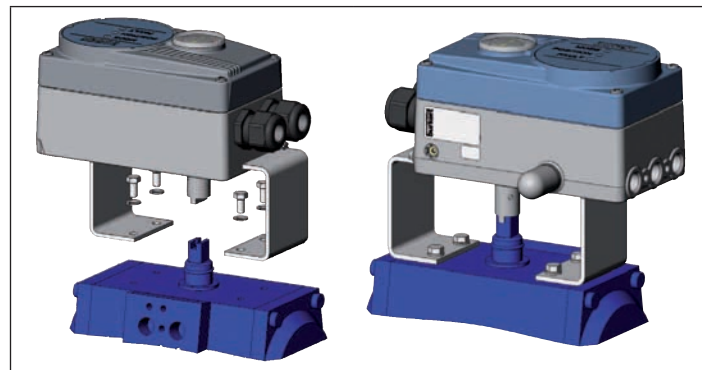

Fig. 14: Rotary actuator attachment
- Place positioner with assembly bridge on the rotary actuator and attach (see "Fig. 14").